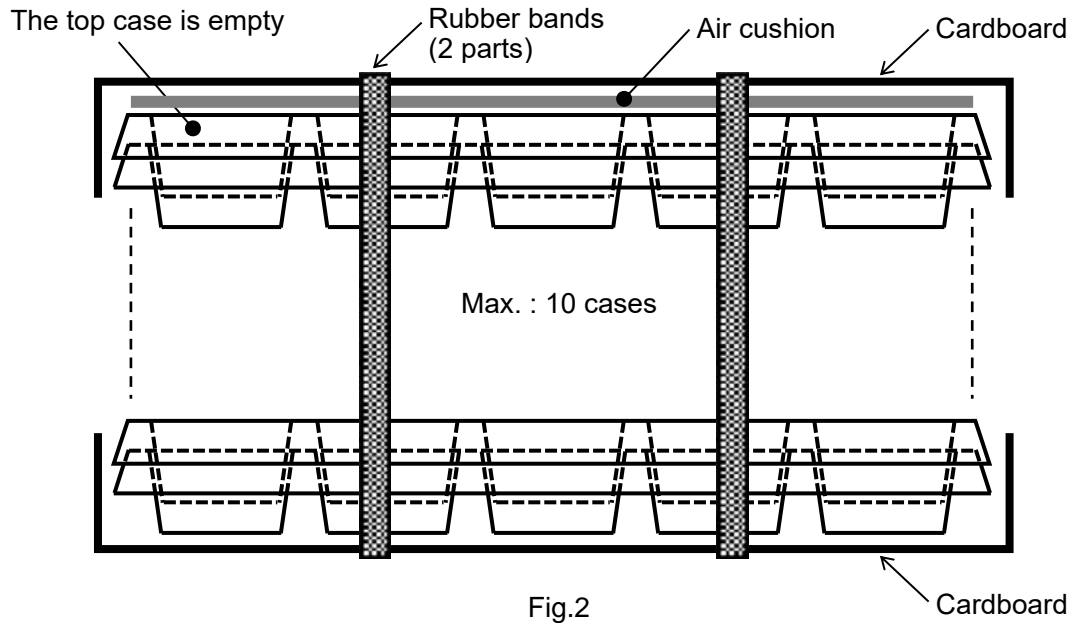

Fig.2
- (1) Put RD3 (Max. : 30 pcs.) in the packing case.
- (2) Pile up 10 cases (the top case is empty), cover top and bottom with the cardboard and fix 2 parts with rubber bands. (Refer to Fig.2)